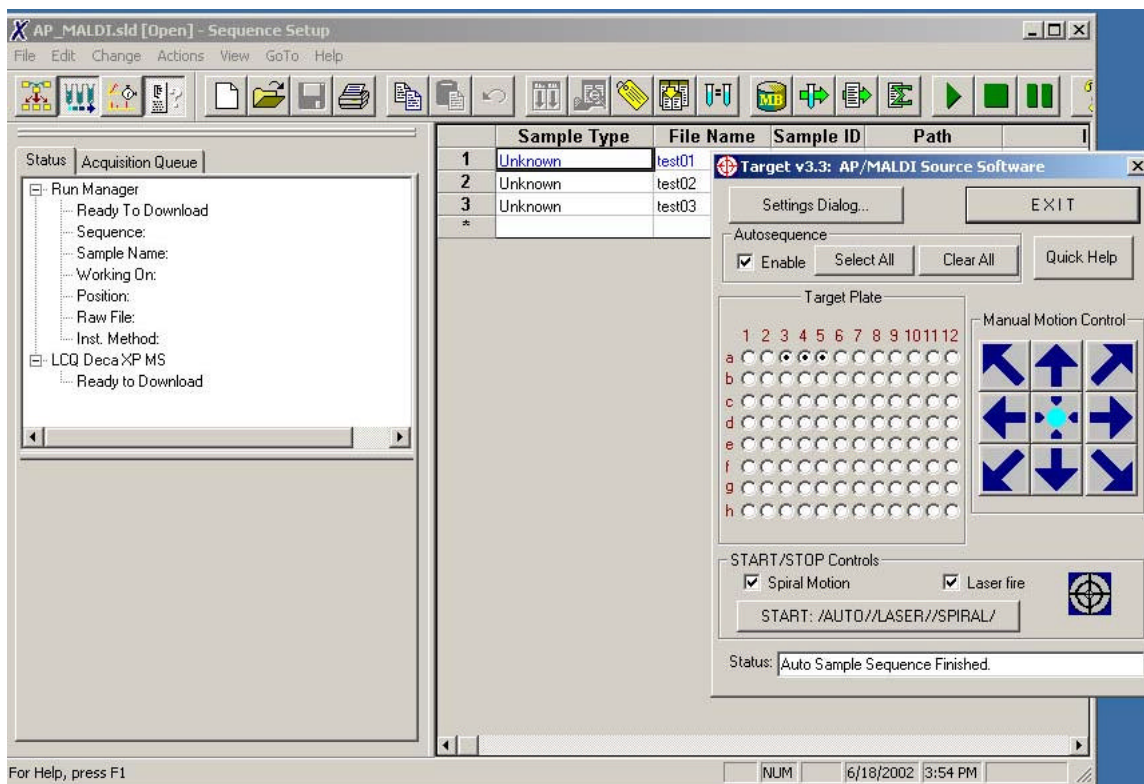

Fig. 35
6. Run the *Xcalibur/Sequence Setup* program. Create an Xcalibur Sequence or open an Xcalibur Sequence file (see Thermo Finnigan’s *Xcalibur* software manual for details). The number of samples in the Sequence Setup window table (see Fig. 35) should correspond to the total number of samples selected for analysis in step 4.
8. After the “Waiting for contact closure” message is displayed in the “Sequence setup” window (See Fig. 35), press the START button in the *TARGET* software window to start AP/MALDI operation. The “Running” message will be displayed in the LCQ status line which later will be replaced by the “Waiting for contact closure” message when the data acquisition from the first sample is completed. This process will be repeated until the last sample is analyzed. The sample positions on the map where the data have been collected are shown by a solid color. The current sample is shown by a blinking color.